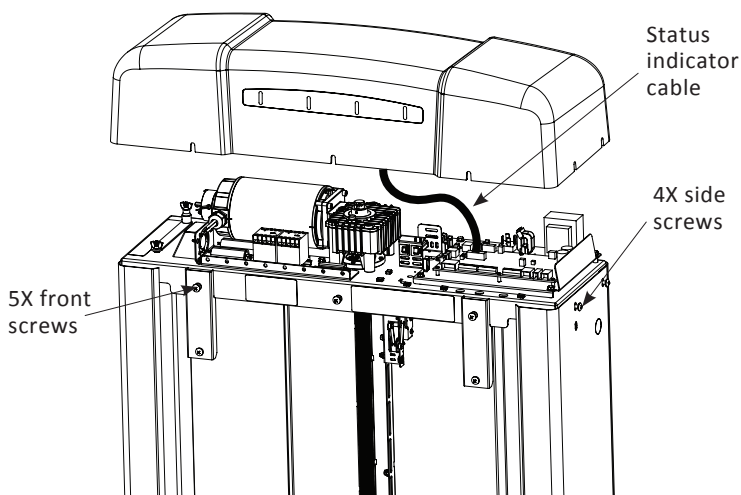

Figure 4-2
2. Remove the top cap by loosening the 4 side screws and lifting the top cap partially, then disconnect the cable for status indicator lights from the control board. *See Figure 4-2.*